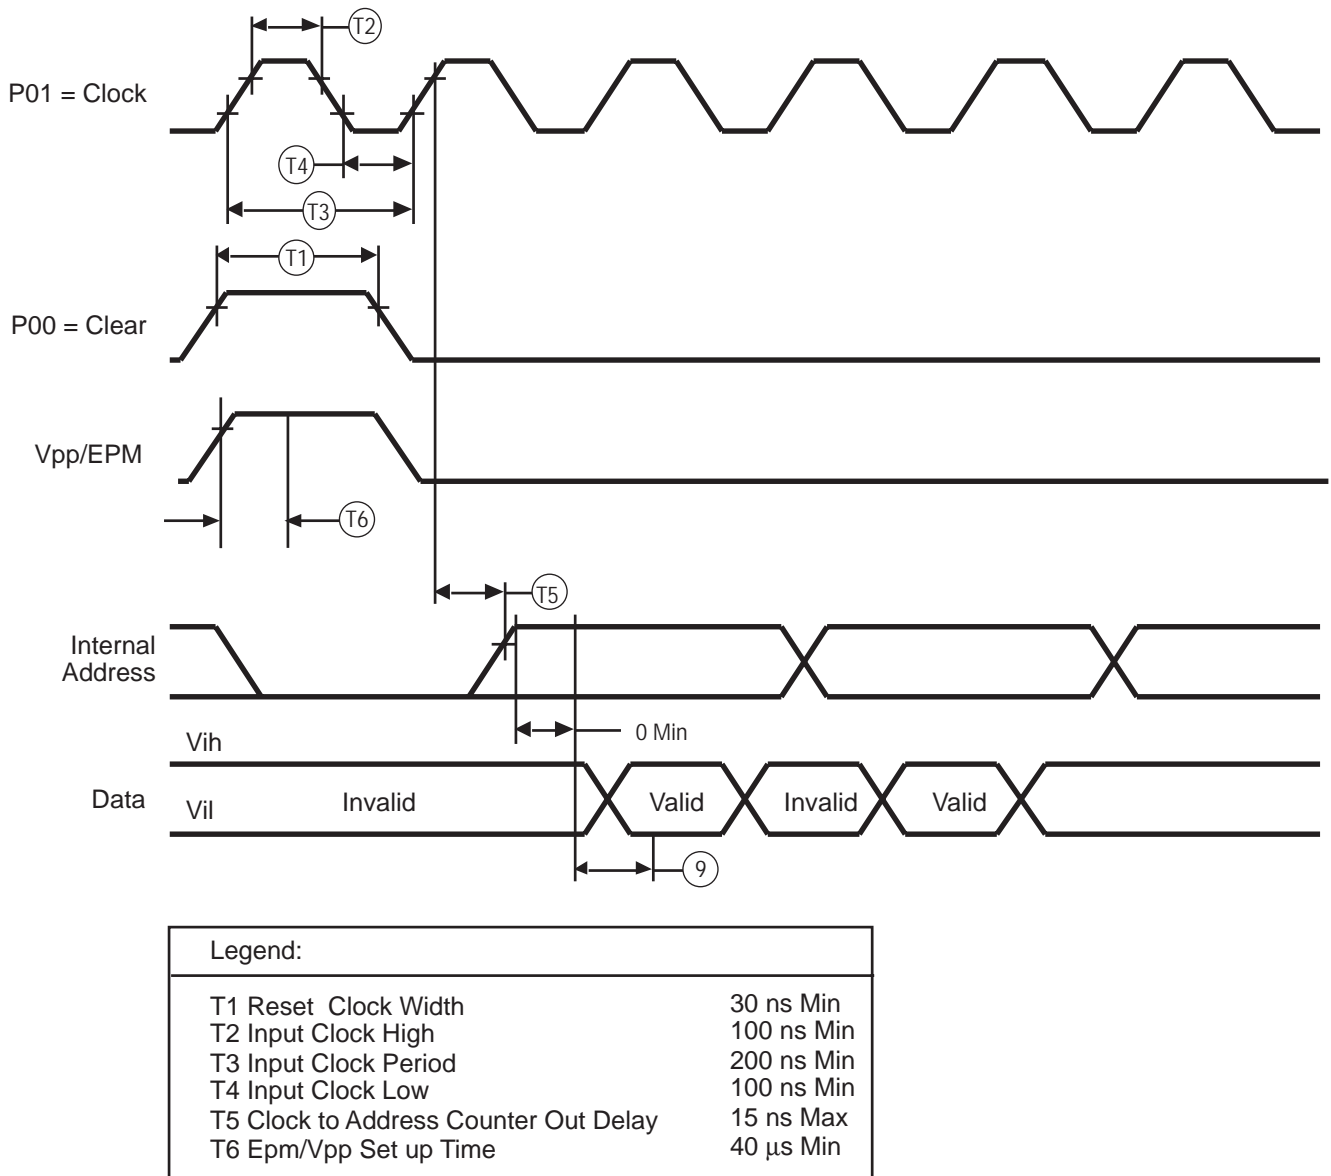

Figure 18. Z86E04/E08 Address Counter Waveform
Figure 18 shows the Auto Reset Voltage versus temperature. If the  $V_{CC}$  drops below the VCC operating voltage range, the Z86E04/E08 will function down to the  $V_{LV}$  unless the internal clock frequency is higher than the specified maximum  $V_{LV}$  frequency.
**Internal Address Counter.** The address of Z86E04/E08 is generated internally with a counter clocked through pin P01 (Clock). Each clock signal increases the address by one and the “high” level of pin P00 (Clear) will reset the address to zero. Figure 18 shows the setup time of the serial address input.